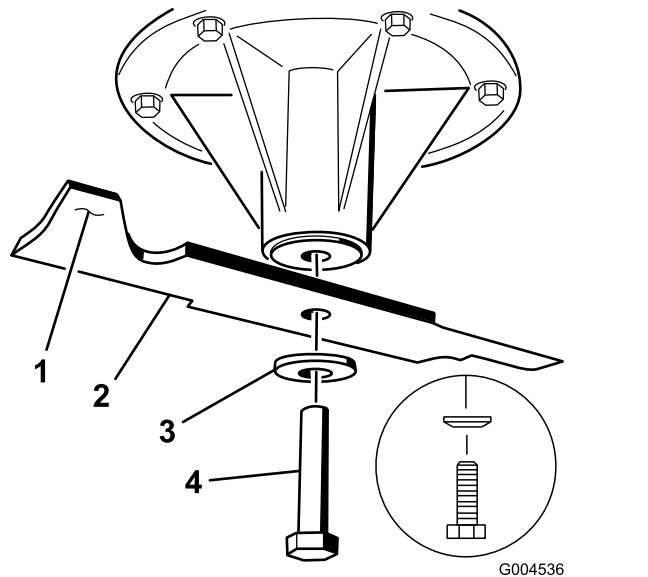

Figure 95
1. Install the blade onto the spindle shaft (Figure 95).
2. Install the spring disk and blade bolt (Figure 95).
**Note:** The spring-disk cone must be installed toward the bolt head (Figure 95).